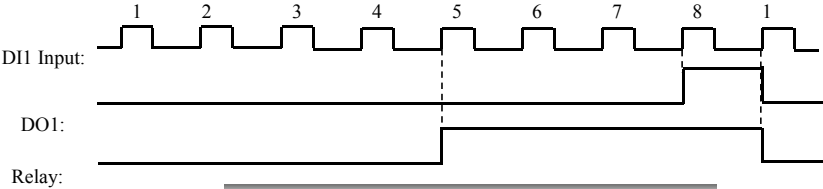

Fig 6-10 Set Count times & Designated Count Times
- As shown in Fig 6-10: if F313=1, F314=8, F301=8, DO1 will output an instruction signal when DI1 inputs the 8th pulse.
- As shown in Fig 6-10: if F313=1, F314=8, F315=5, F300=9, relay will output an instruction signal when DI1 inputs the 5th pulse, relay will output an instruction signal until reaching “set count times 8”.